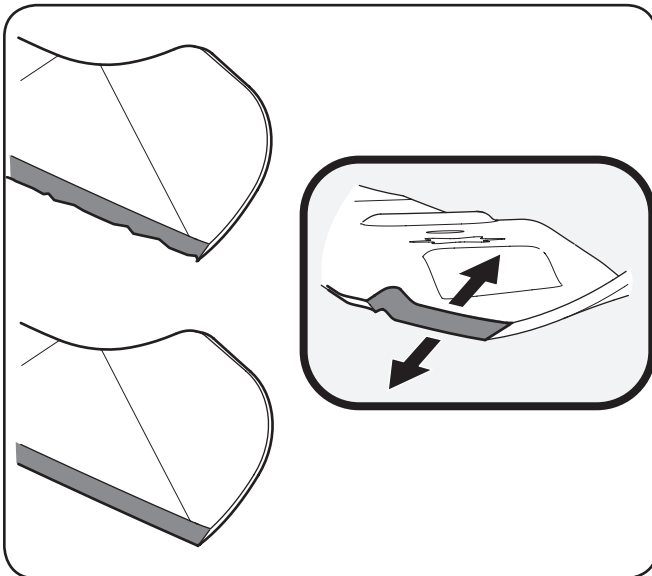

Figure 7-6
4. To properly sharpen the cutting blades, remove equal amounts of metal from both ends of the blades along the cutting edges, parallel to the trailing edge, at a 25°- to 30° angle. Always grind each cutting blade edge equally to maintain proper blade balance. See Figure 7-6.